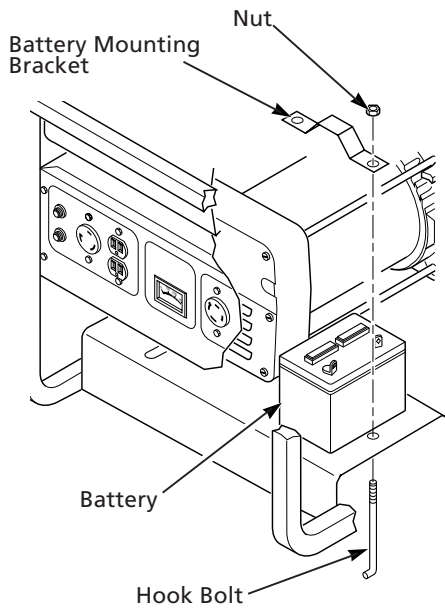

Figure 15 – Battery Hold-Down System (Model 3WY45 Shown)
1. Secure battery to generator by battery hold-down system. This system consists of the battery mounting bracket, hook bolt, and nut (See Figures 15 and 16).